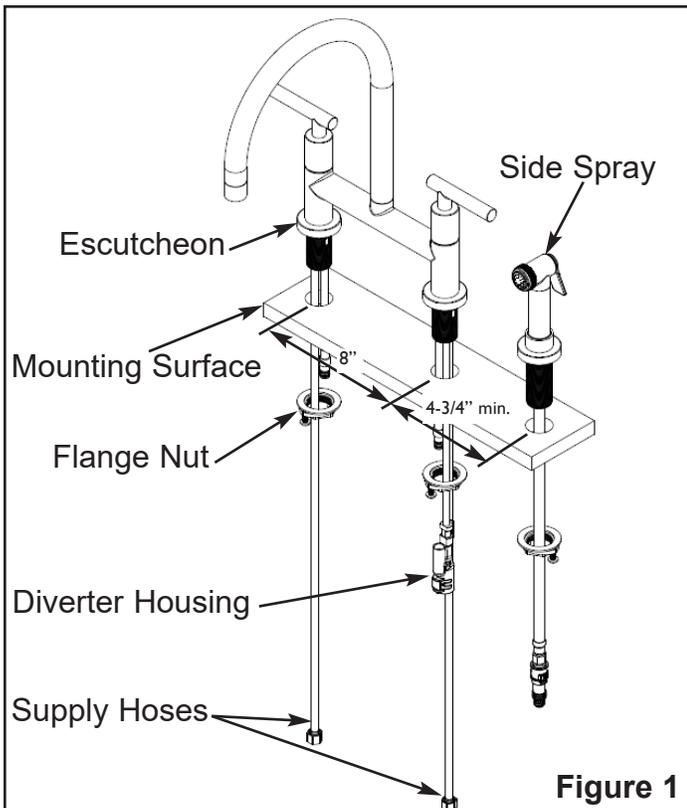

Figure 1
1. Insert water supply lines through mounting holes, then place faucet and side spray with escutchons attached onto the deck, and secure with flange nuts. See **Fig. 1**.